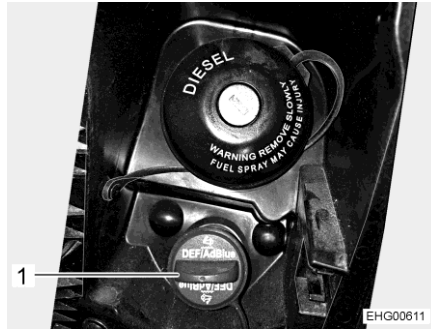

Fig. 8 Filler neck for AdBlue®
- Turn blue lid (Fig. 8,1) in an anticlockwise direction and remove it.